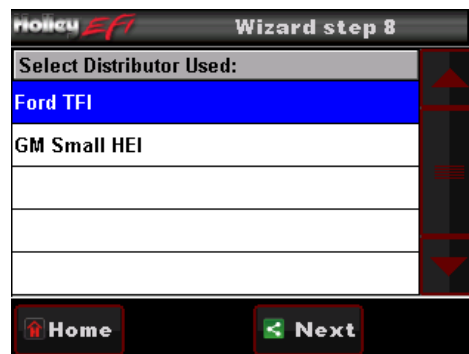

Figure 16
10. Select “GM Small HEI” or “Ford TFI” (**Figure 16**). Proceed to step 12.
- “Coil – (neg)-” – Select this if you are NOT using an aftermarket Capacitive Discharge (CD) ignition box such as a MSD, Mallory, or others. This is for stock, factory inductive ignition coils. Examples would be a factory GM large cap HEI, or a points style ignition with a canister coil. You should have connected the solid yellow wire in the harness to the negative side of the ignition coil when the wiring was performed.
- “CD Box Tach Out” – Select this if you are using an aftermarket Capacitive Discharge (CD) ignition box such as a MSD, Mallory, or others. When you wired the vehicle, you should have used an ignition adapter harness that had a yellow/black wire that you connected to the “tach out” on the ignition box. Nothing should have been wired directly to the ignition coil.